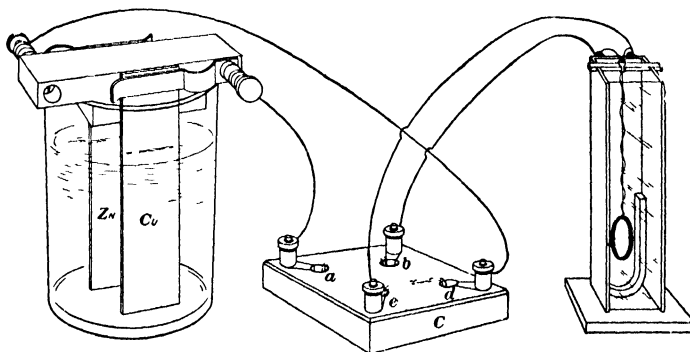

FIG 56
**IV. Principle of the D'Arsonval galvanometer** (a) Hang a coil of about one hundred and seventy-five turns of No 32 copper wire between the poles of a horseshoe magnet in the manner shown in Fig 56, so that the plane of the coil is parallel to the line joining the poles. The two
V. **Electromotive forces of various commercial cells.** Having the galvanometer circuit arranged as in Fig 56, reduce the deflection produced by a Daniell cell, improvised as in Exp 28, V, to about  $10^\circ$  by moving the compass away from the coil, then find the deflections produced by a dry cell, a Leclanché cell, and any other cells which you may have, and calculate the E M F of all the latter cells on the assumption that the E M F of a Daniell cell is 1.08 volts. In this work, however, be very careful not to change the galvanoscope in any way during any of the operations.